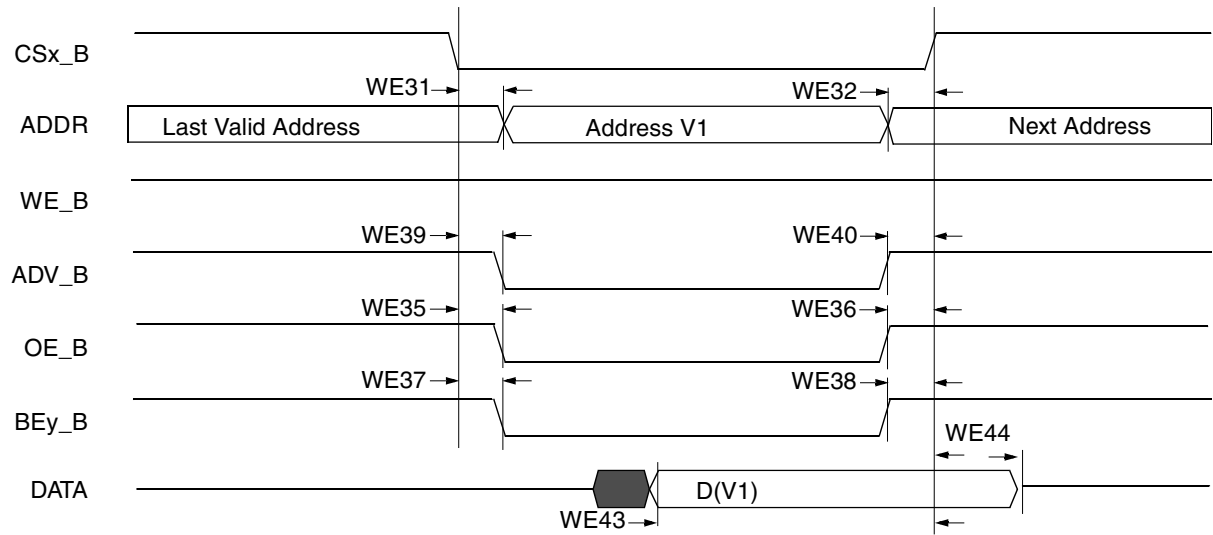
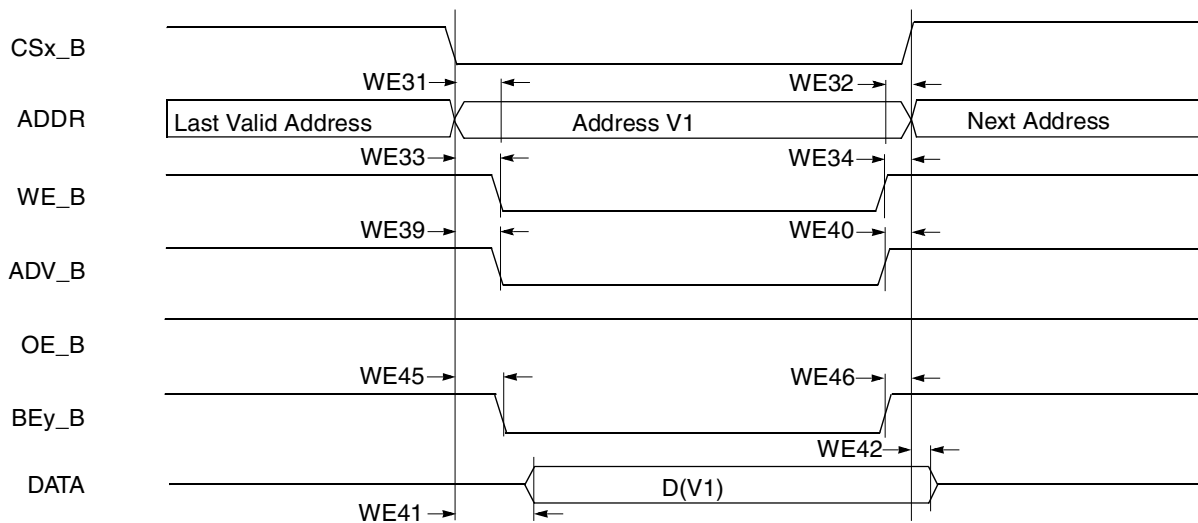
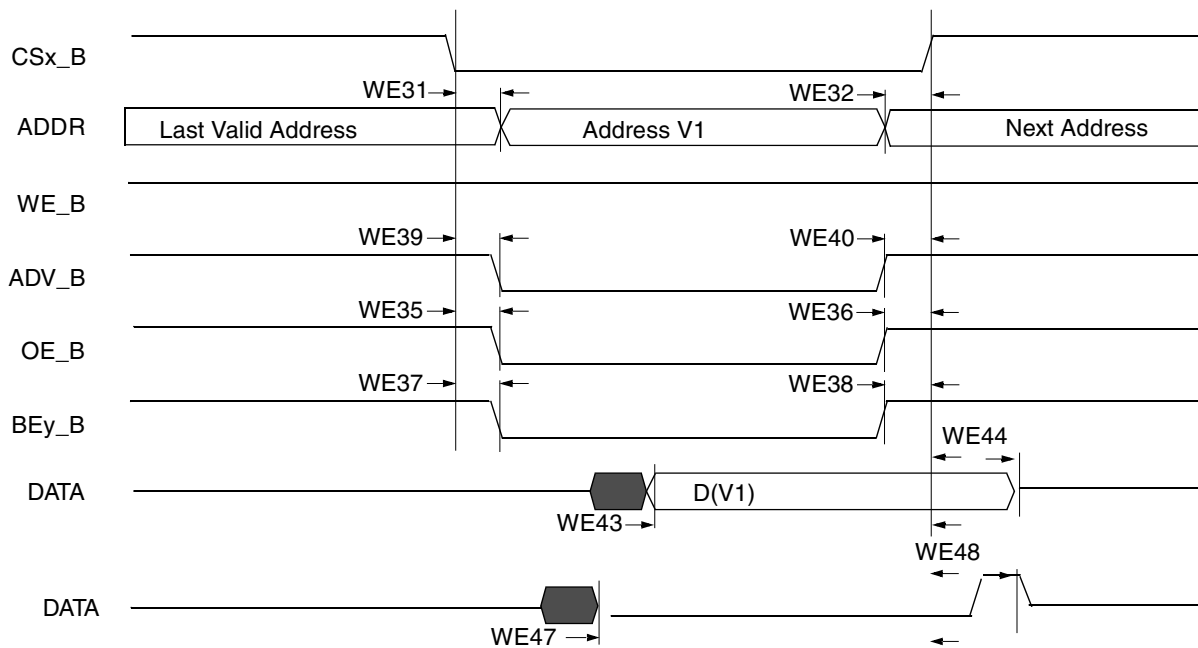

Figure 26. Asynchronous Memory Read Access
Figure 27. Asynchronous Memory Write Access
Figure 28. DTACK Read Access
The Figure 26, Figure 27, Figure 28, and Table 41 help to determine timing parameters relative chip select (CS) state for asynchronous and DTACK WEIM accesses with corresponding WEIM bit fields and the timing parameters mentioned above.